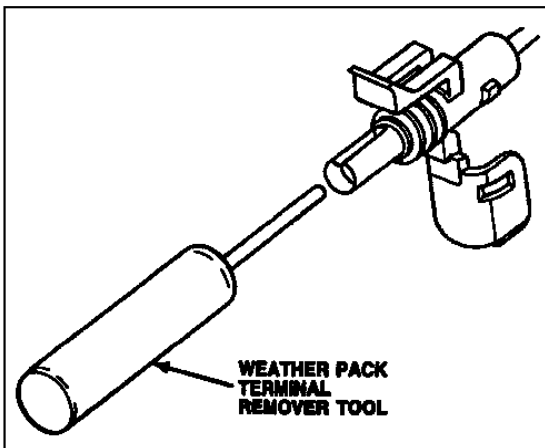

Figure 43 Remove Terminals
2. Remove terminals using Weather Pack terminal removal tool (12014012) or equivalent (Figure 43).